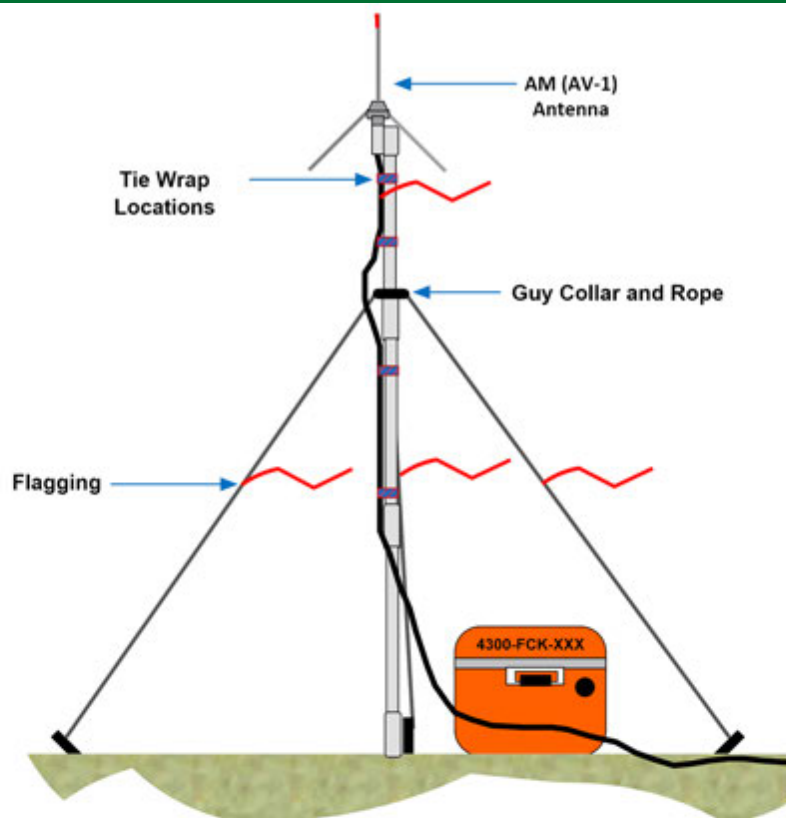

Figure 1:
3. **Microphone Connection:** (See Figure 1)
4. **91-DE Radio Use:** (See Figure 1)
1. Antenna Installation: (See Figure 1)